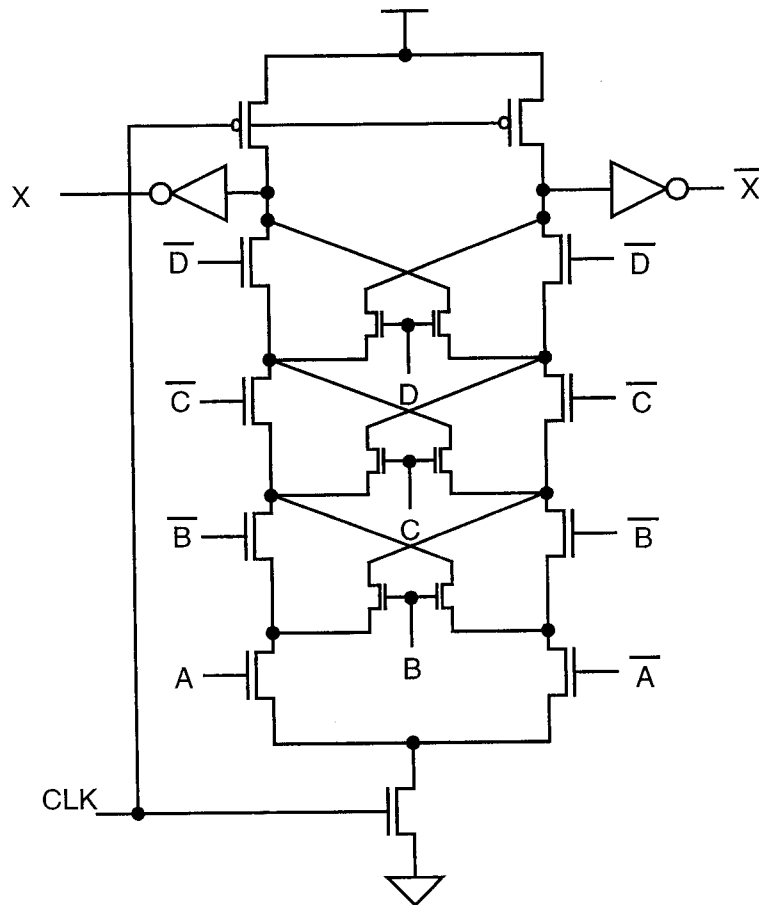

Figure 4.1
4. Figure 4.1 shows a clocked gate with four dual-rail logic inputs A, B, C and D, and a dual-rail output X.